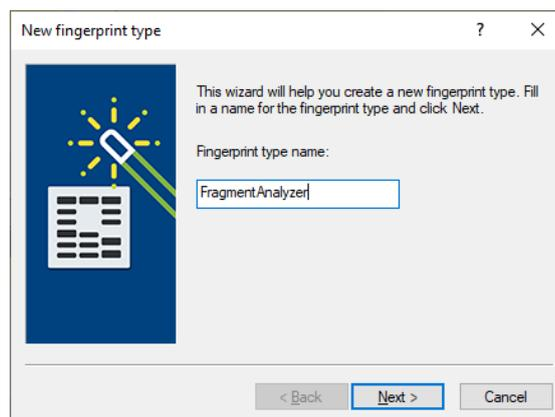

Figure 5: Specify a name.
9. Press **<OK>**, enter a name, for example “FragmentAnalyzer” and press **<Next>** (see Figure 5).